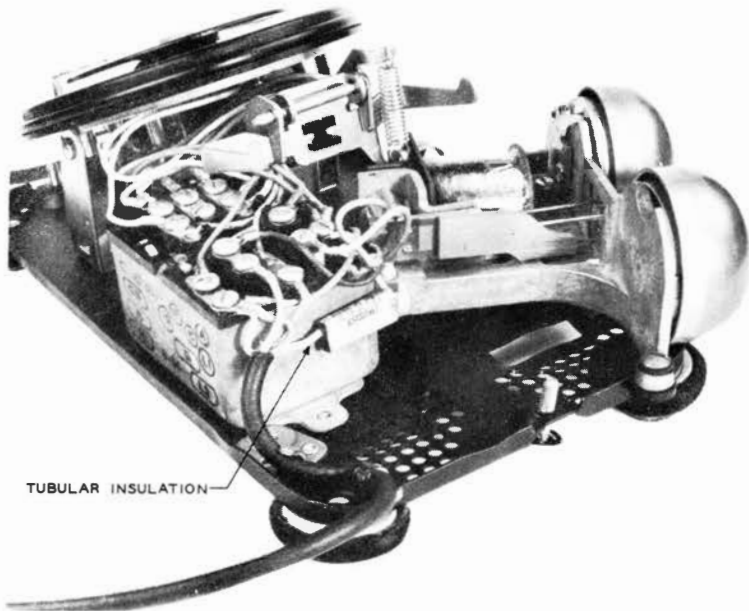

FIG. 4—500C/D CONNECTIONS
3.03 The KS-13814, List 7 capacitor is mounted on the 425-type network and should be positioned so it does not interfere with the operation of the telephone set (see Fig. 4).
4.02 The KS-13814, List 7 capacitor should be connected as shown in Table A; Fig. 4 shows the 500C/D connection.